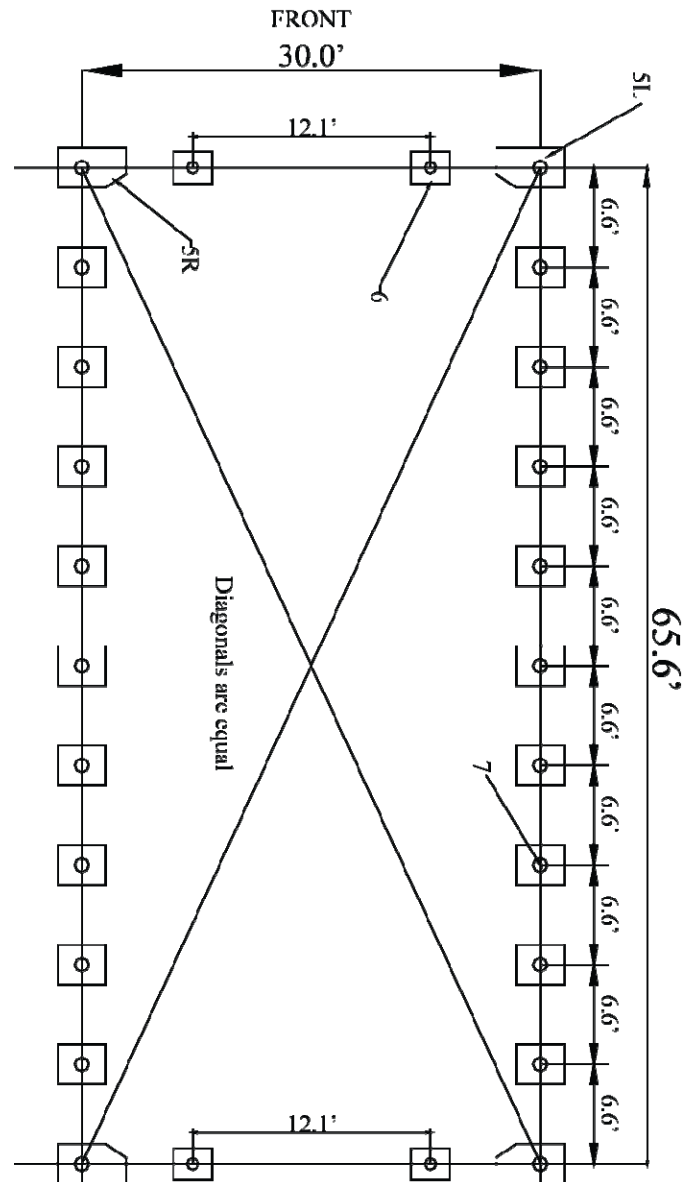

Figure 4 Position of Base Flanges
In order to assemble arches into a frame assembly, the Base Flanges (5L, 5R, 6, & 7) must be secured to the mounting surface. Refer to Figure 4 for an exact layout of all base flanges.
Begin by determining exact location of the four (4) corners of the building. Mark End edge and side-to-side width of assembly on ground if not on concrete pad. Drive alignment stakes into the ground outside of the markings, and draw alignment strings along both ends and sides of the building to the dimensions shown in Figure 4. The outline of the strings will represent the final location of the baseplate flanges. The initial location of each Corner Base Flanges (5R & 5L) is critical to the alignment and fit of the frame components and cover. Locate the Left Corner Base Flange (5L) and
Layout and secure all Base Plates in position as shown in Figure 4.
Secure the base flanges with either or both the Auger style anchor (20) and the Earth style anchor (21). Measurements shown in Figure 4 are to the center of the upright sockets on each Base Flange.